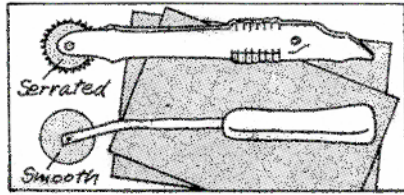

Figure 16
- *Tracing wheel and dressmaker's tracing paper* is suitable *only* for firmly woven fabrics. It is especially good for woven linings and interfacing. (Figure 16)